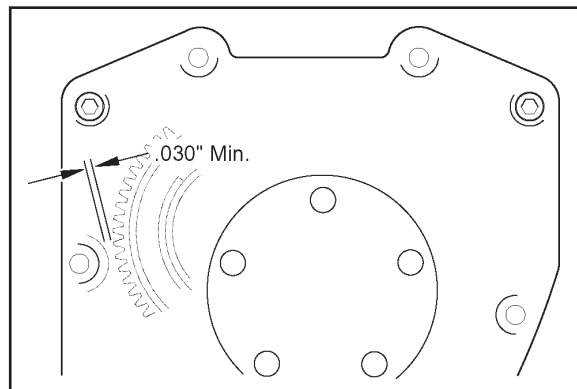

Figure 5
- N- Press a small piece of clay or kneadable putty on cam cover mounting boss shown. **See Figure 5** below. Carefully hold cover and cover gasket in position against crankcase. Install mounting bolts (4) near corners of cover finger tight. Push or tap cam cover towards front of engine.